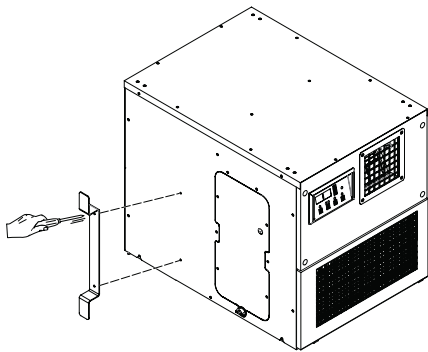

Figure 1 - power cord holder attachment.
3. Use screws (enclosed inside of accessory box with cord holder) to install the cord holder in the unit as shown in Figure 1.